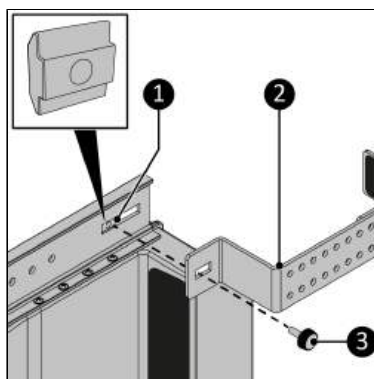

Figure 71.
- Screw the bracket (Figure 71, pos. 2) to the main rail in the front position using the knob screw (Figure 71, pos. 3). Make sure you connect the knob screw to the slide nut (Figure 71, pos. 1).